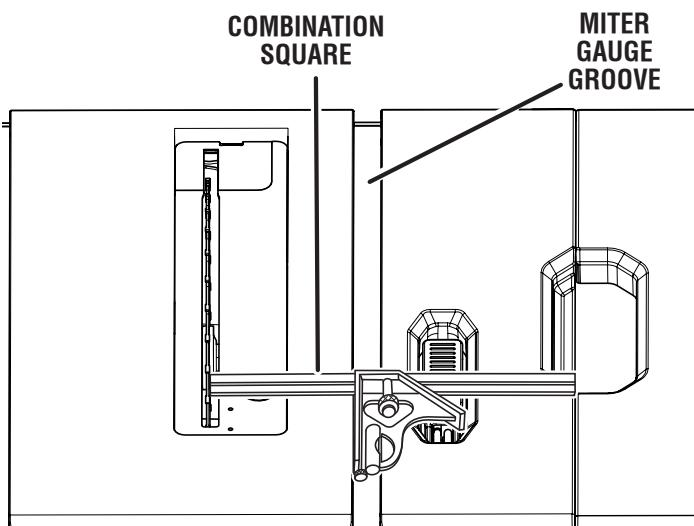

Fig. 34
- Mark beside one of the blade teeth at the front of the blade. Place the body of a combination square against the miter gauge groove as shown in figure 34. Measure the distance from the blade tooth to the right miter gauge groove.